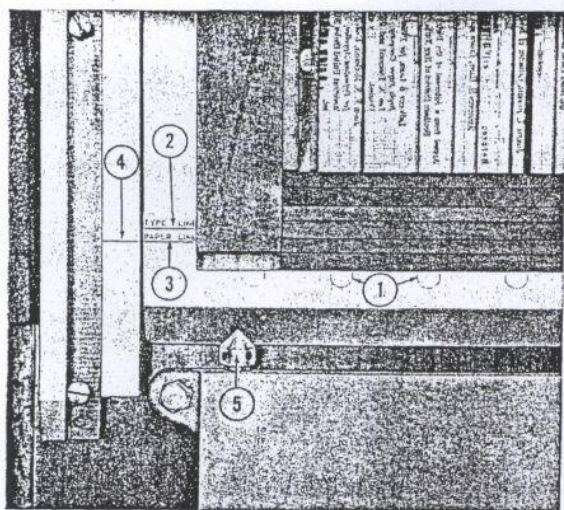

Figure 27—Chase Alignment
d. CHASE ADJUSTMENTS. (See figure 27).—Each chase furnished with the press has an inside dimension of $14\frac{7}{8}$ " x $19\frac{3}{4}$ " which will accommodate a full sized form $12\frac{1}{4}$ " x 19" (two roller coverage). A $13\frac{3}{4}$ " x 19" maximum form (one roller coverage) can be locked up by using quoins on the gripper edge. Circles (1), stamped on the gripper edge of the chase, indicate exact position of cylinder grippers. These circles are provided to aid the operator in properly positioning the form to secure the best gripper handling.
(d) Be sure the "PAPER LINE" (3) registers with alignment marking (4) on bed bearer as shown in figure 27. If necessary, raise or lower chase, as required, by turning chase adjusting screws.